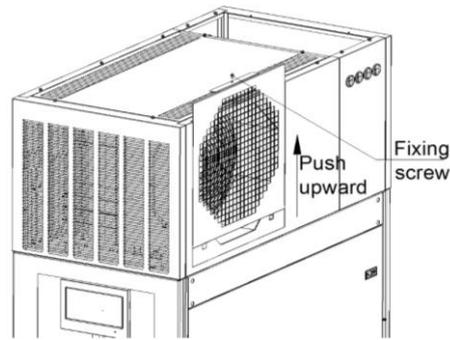

Figure 3-18 Remove the perforated board at the air outlet
1. Remove the M4X10 screw (1PCS), push upward the original perforated board at the air outlet of the top frame body, remove the perforated board as shown in Figure 3-18.